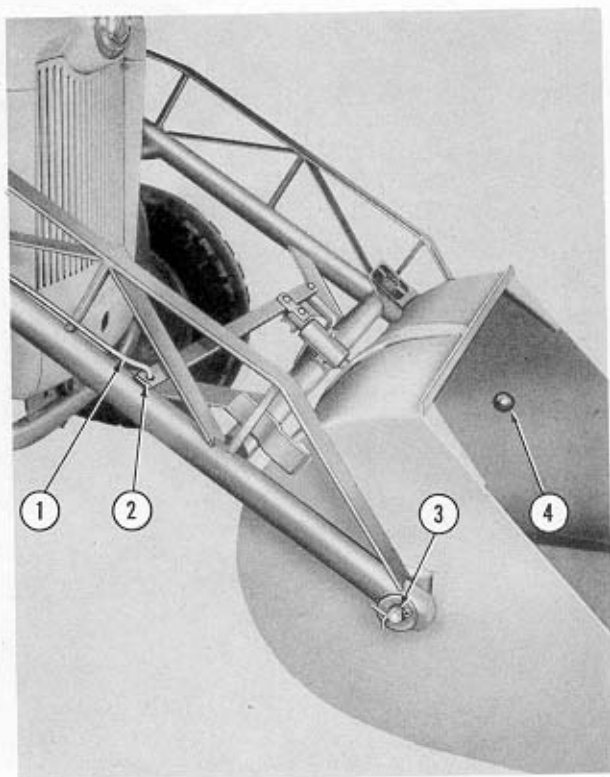

Figure 8
11. Attach the forward end of the trip rod (1), Figure 8, to the latch bar (2) with a cotter pin as shown.
12. Attach the bucket (or manure fork) to the lift arms with the pins (3) and (4) and secure with flatwashers and cotter pins as shown in Figure 8.